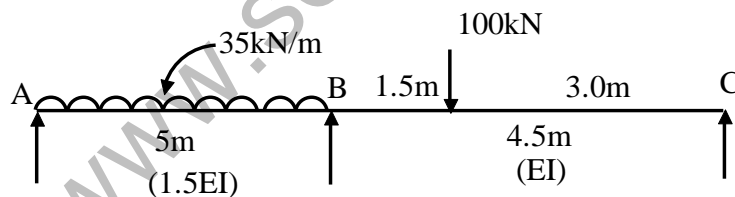

Fig:7
8. Assemble global displacement matrix for the plane beam loaded as shown in fig : 7 using stiffness method. 13